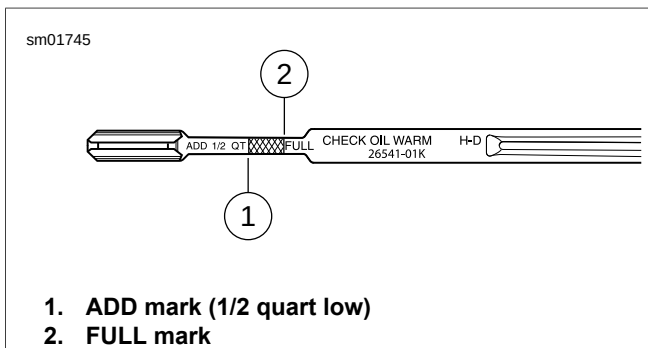

Figure 1-3. Dipstick
4. See Figure 1-3. Remove the filler cap again and check the oil level on the dipstick.